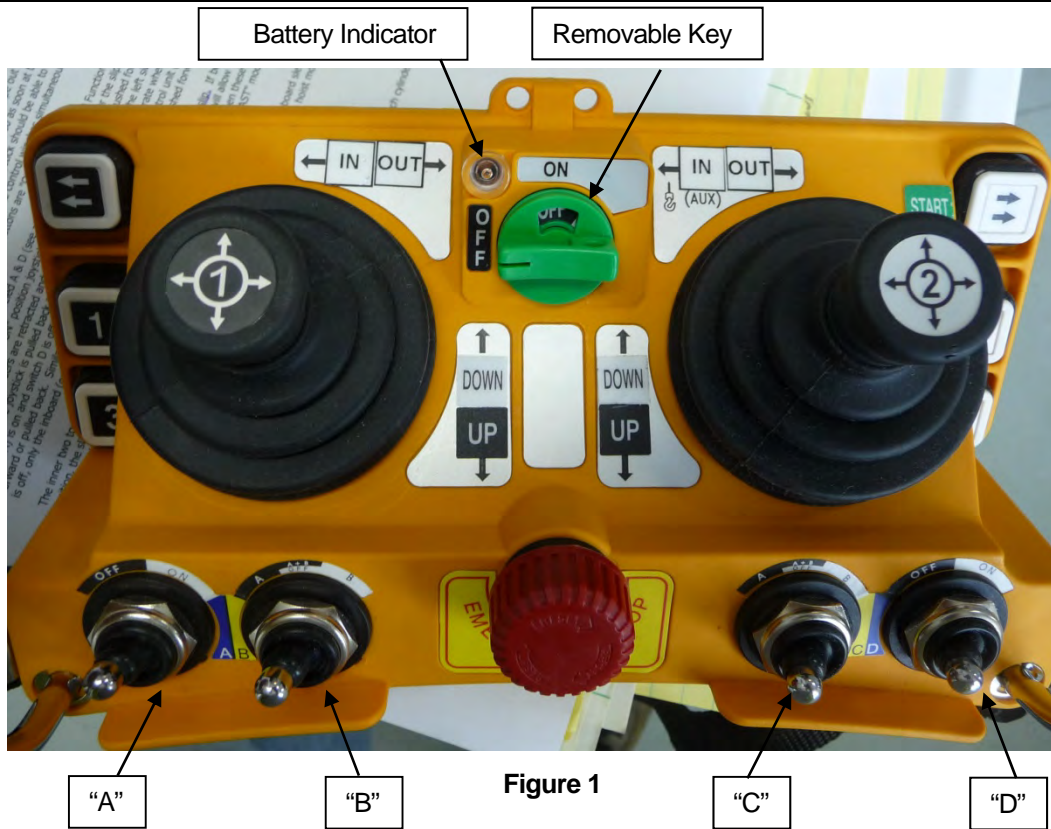

Figure 1
10.4) Switch Descriptions (Reference Figure 1 below)